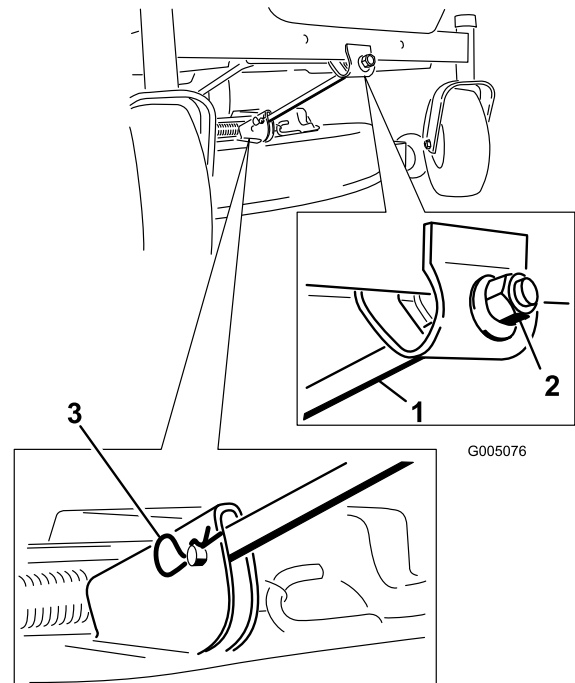

Figure 45
4. Remove the hairpin cotter and clevis pin from the front support rod (Figure 45). Carefully lower the front of the mower deck to the ground.
6. Attach the front support rod to the mower deck with the clevis pin and hairpin cotter (Figure 45).